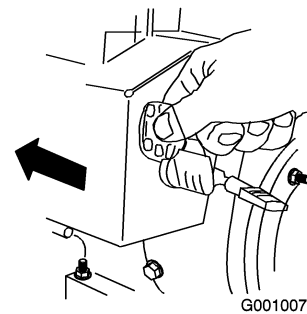

Figure 22
5. Insert the ignition key (Figure 22).